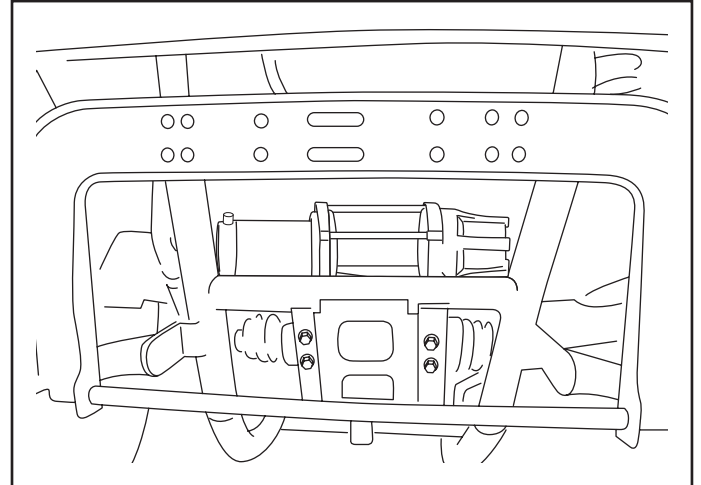

Figure 2.
2. Place your winch into the machine as shown in figure 2.